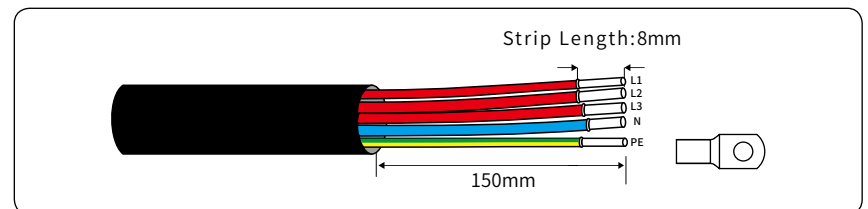

Figure 4-13
1) According to the recommendations in above table to select an appropriate copper cable, strip the insulation sleeve of AC cable off for 150mm, and strip the end of 3L /PE / N wires for 8mm, then put the 5 AC terminals on the stripped metal cores respectively and tighten them with hydraulic clamp, as shown in Figure 4-13: